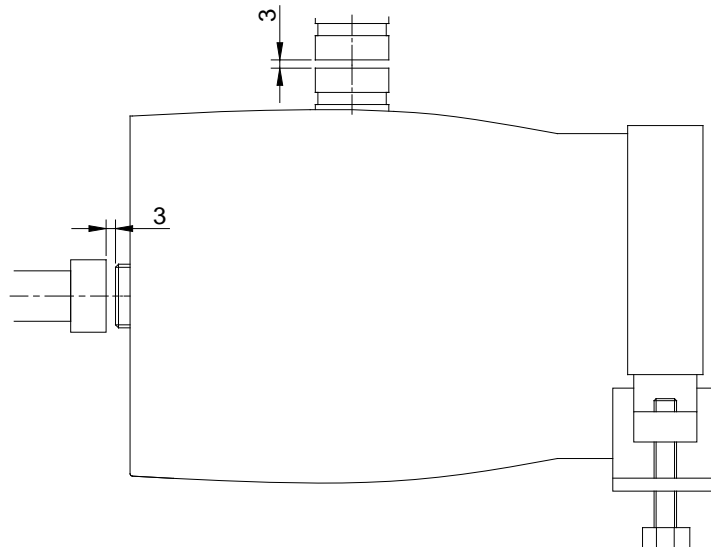

Figure 4
4. Connect the vessel to piping manifolds while adjusting the position of the shell and piping manifolds. Try to align the feed port and concentrate port. The distance between the vessel and piping manifolds should be set as 3 mm (Figure 4). Try to align in all directions. The Victaulic® coupling should be able to be tightened without applying any adhesive on it. Lock the vessel and piping manifolds in place only after all alignment procedures are finished.